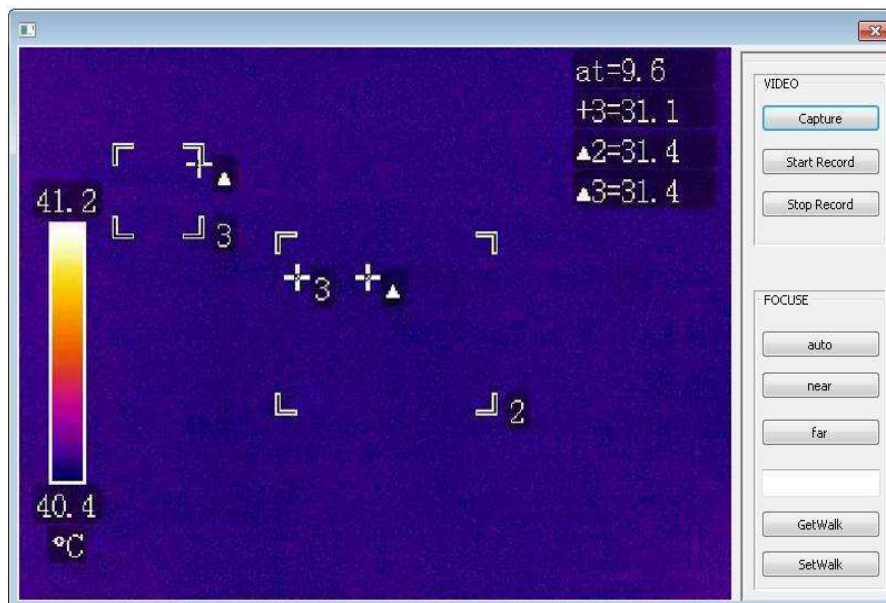

Figure 5-6
**AVI preview:** It can capture the images of thermal imaging camera, record video, stop recording and set up the thermal image focal length. Click the Auto Focus button, then the device will adjust the focus automatically in order to get crisp thermal images. It can be adjusted by clicking the near& far button as well. Besides, users can click the Getwalk button to read the step number of motor, and click the Setwalk button to set the motor step number. As shown in the figure 5-6.